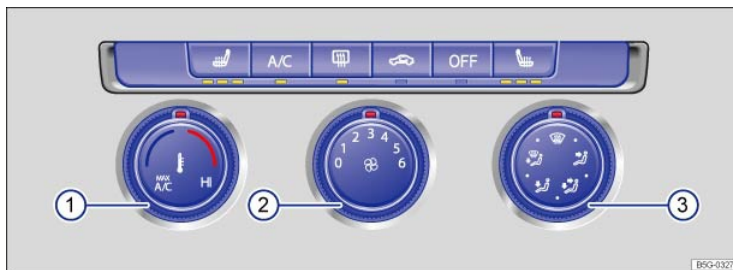
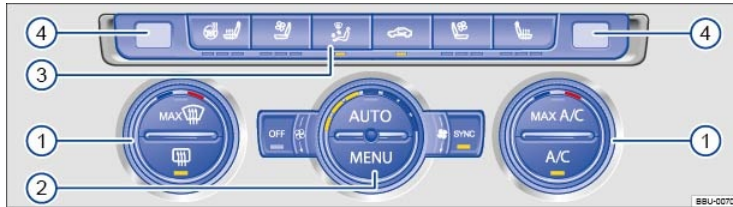

Fig. 96 In the center console: Manual controls.
Fig. 97 In the center console: Climatronic controls (may vary depending on equipment).
- **OR: Manual air conditioning:** Turn the fan knob to ⇒ Fig. 96②.
- **Climatronic:** Turn the fan knob as far left as it will go ⇒ Fig. 97②
- **OR:** Press the **MENU** button ⇒ Fig. 97② on the Climatronic controls to open the Climatronic menu in the Infotainment system and switch the system off.
- *Manual air conditioning:* Turn the temperature knob ⇒ Fig. 96① all the way to the left (MAX A/C position).
- *Manual air conditioning:* Turn the temperature knob ⇒ Fig. 96① to set the temperature.
- *Climatronic:* Turn the outside knobs ⇒ Fig. 97① to set different temperatures for the driver and passenger sides. The displays above the knobs ④ show the set temperature.
- Turn the middle knob ⇒ Fig. 96② or ⇒ Fig. 97② to adjust the fan speed.
- *Manual air conditioning:* Turn the knob ⇒ Fig. 96③ to direct air flow in the desired direction.
- *Manual air conditioning:* Turn the right knob to position  ⇒ Fig. 96③ to defrost the windshield as quickly as possible. The cooling system switches on automatically to dehumidify the air. When the defrost function is switched on, the air recirculation mode cannot be switched on.
- *Climatronic:* Press the MAX  button ⇒ Fig. 97① to defrost the windshield as quickly as possible. The incoming outside air is directed to the windshield, and air recirculation automatically switches off. Humidity is removed from the air at temperatures above about +38 °F (+3 °C), and the blower is set to a high speed.